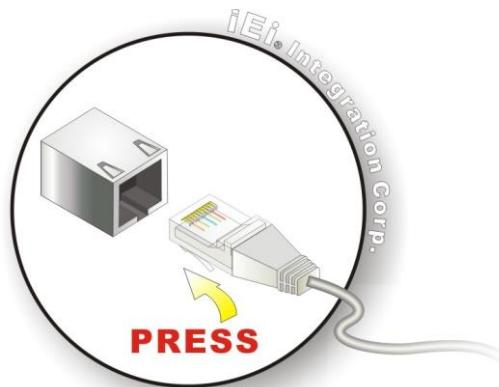

Figure 3-15: LAN Connection
Step 2: Align the connectors. Align the RJ-45 connector on the LAN cable with one of the RJ-45 connectors on the TANK-XM810 Series. See Figure 3-15.